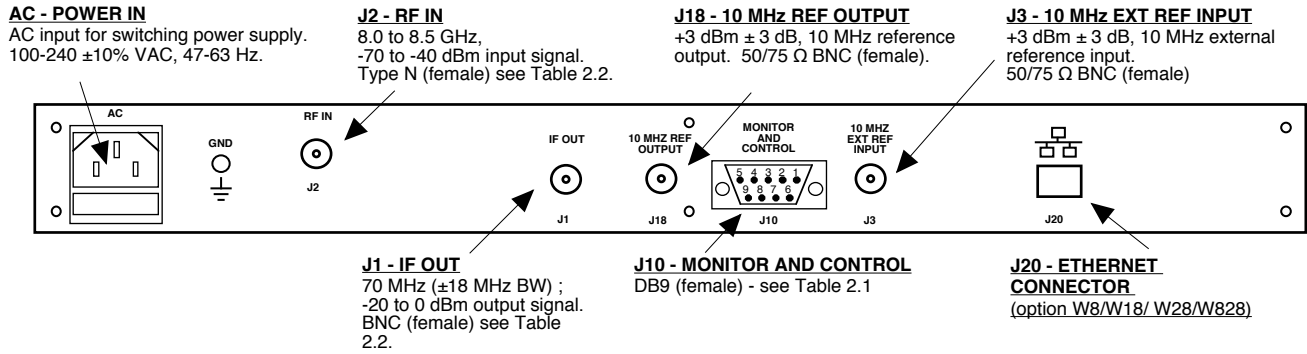

FIGURE 2.2 2016-8085 Rear Panel I/Os
Figure 2.2 shows the input and output connectors on the rear panel.
1. Connect a -70 dBm to -40 dBm signal to RF IN, J2 (Figure 2.2)